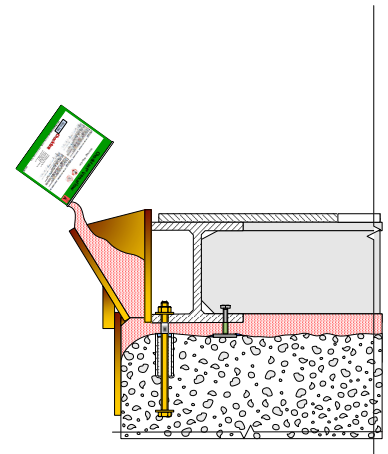

Figure 1
4.4.1.1.2. Head boxes or troughs are to be constructed as required to fit the needs of the application and to the degree necessary to place all the grout to its proper location within its prescribed working time. (Figure 1 **Error! Reference source not found.**)